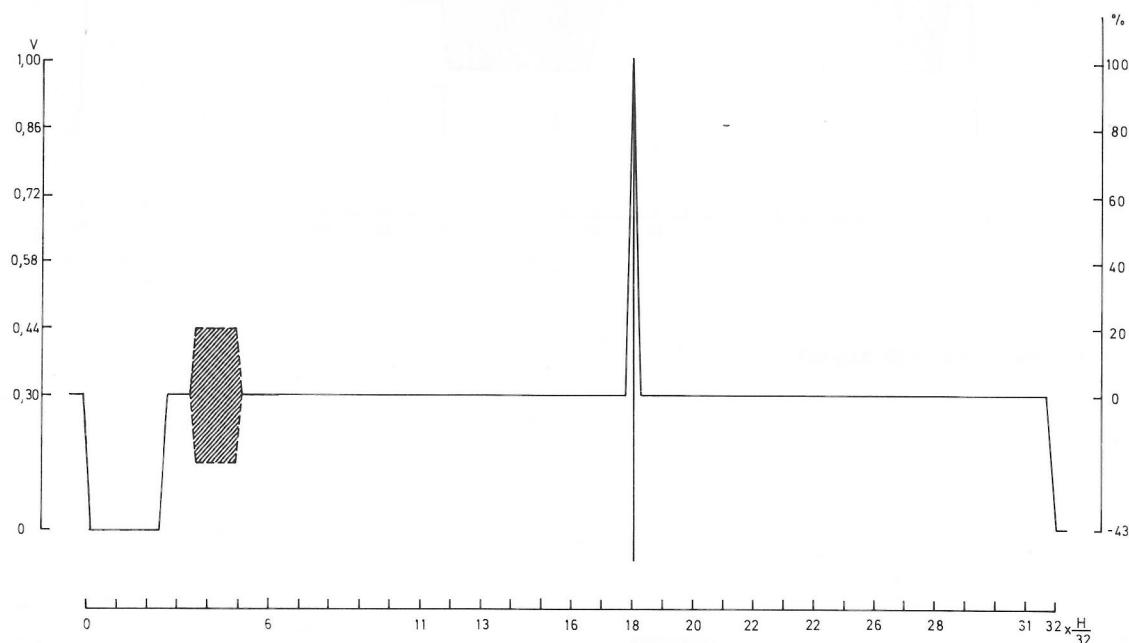

Fig. 3-5 2T pulse
6. (L) 2T sine2 pulse (See also fig. 3-5)
Timing : see fig. 3-5